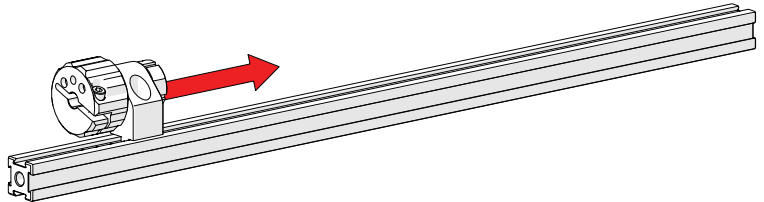

Fig. 131 - Slide main knob to middle of frame bar
2. Slide the main knob to the middle of the frame bar (*Fig. 131*).